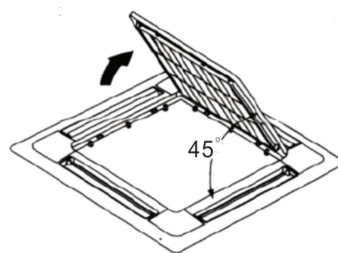

Figure 2
- 2) Lift up the grill to about 45° and take off the wind grill on decorative panels. (Refer to Figure 2)